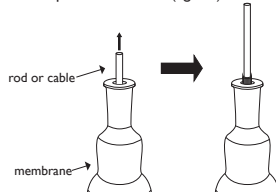

Fig. 4.3
6. Pull the rod and hanger up through the membrane until the top of the hanger is protruding from the top of the membrane (fig. 4.3).